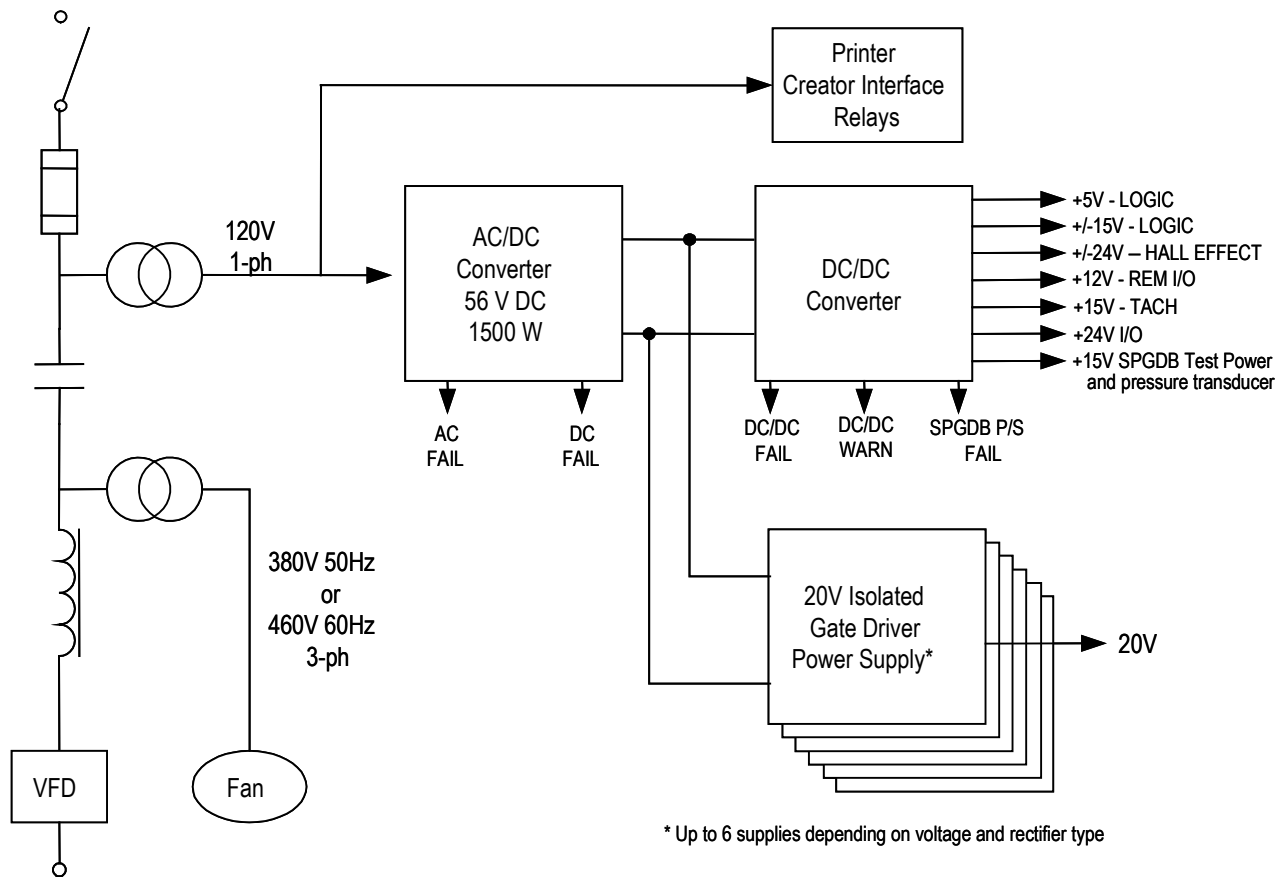

Figure 6.54 – 6-pulse/PWM Line Reactor Drives *with* Integral Starter
1. Integrated Line Reactor Drive with Integral Starter (refer to Figure 6.54)
Figure 6.54 illustrates the control power distribution for 6-pulse and PWM drives with integral starter/line reactor.